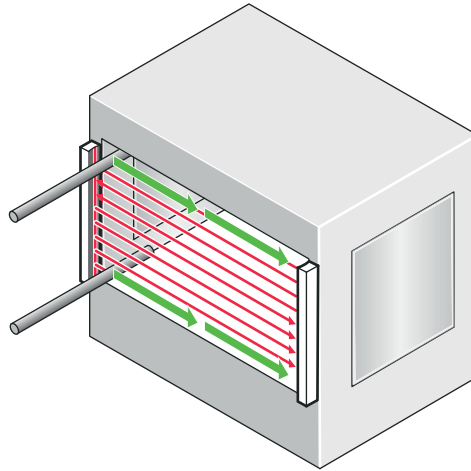

Figure 28: Test rod check: Step 3
3. Then, guide the test rod along the edges of the area to be protected, as indicated by the arrow, see figure 28.